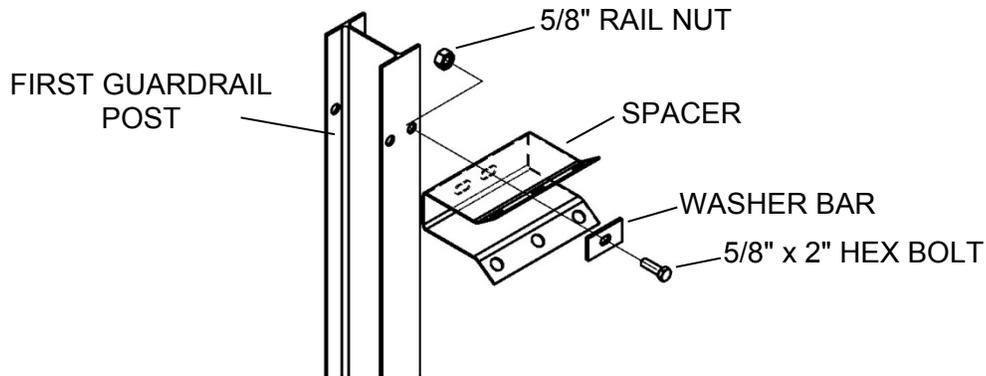

Figure 12 - Spacer Attachment
- 4.2 Use (1) 5/8" x 2" hex bolt, (1) Washer Bar and (1) 5/8" rail nut to attach the Spacer to the first Guardrail Post. All of the Spacers have two slots on the inside for mounting. Orient as shown in Figure 12 (Guardrail Panel not shown for clarity).
- 4.3 Working from the guardrail to the front of the TREND® 350 Tangent End Terminal, use (1) 5/8" x 2" hex bolt, (1) Washer Bar and (1) 5/8" rail nut to attach the Spacer to the W6x8.5# Line Post – Posts 6, 5, 4 and 3. All of the Spacers have two slots on the inside for mounting, orient as shown (Figure 12).